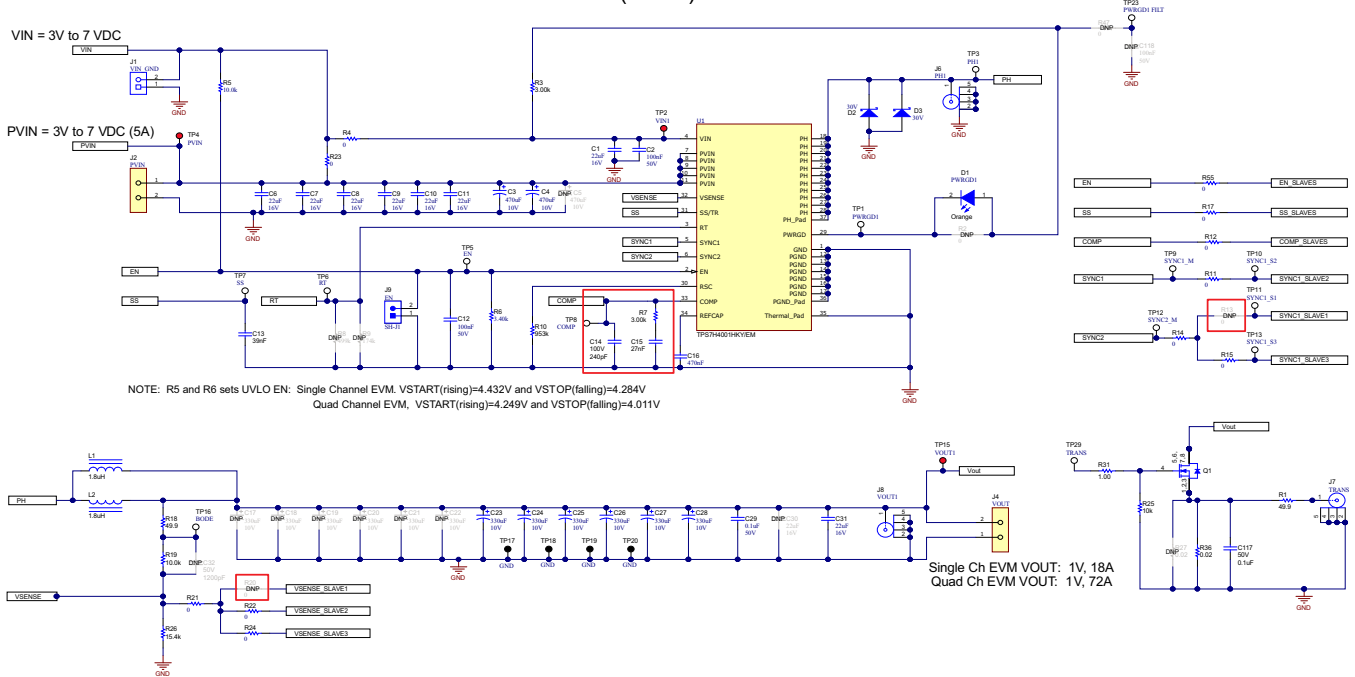

Figure 8. SLAVE1 DUT U2 Modifications
2. Modifications near SLAVE1 DUT U2 (Figure 4 and Figure 8)